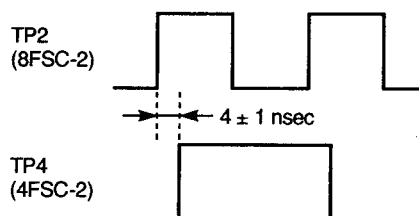

Fig. 5-1-5
- Adjust CT3 to obtain  $4 \pm 1 \text{ nsec}$  as shown in Fig. 5-1-5.